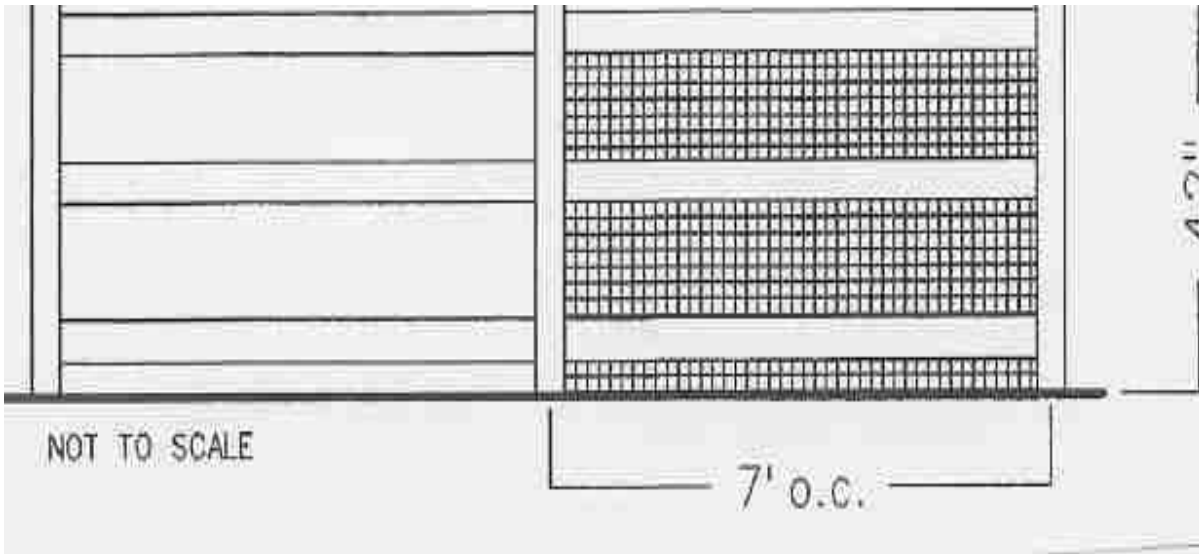

Figure 5 – Split Rail Fence Detail
- b. Fencing design is provided for a range of conditions in the O.D.P. All lots within the Huntington Trails subdivision will use a split rail fence design as exhibited in the O.P.D. for perimeter fencing unless otherwise noted. Fence height must be 42". The split rail fence can be installed and maintained on adjoining homeowner lot lines. The fence may extend into the side yard, but must be at least 10 feet back from the front foundation line. For corner lots fencing must be at least 2' back from the sidewalk. Wing fencing between houses will also use the split rail design. (See Figure 5).